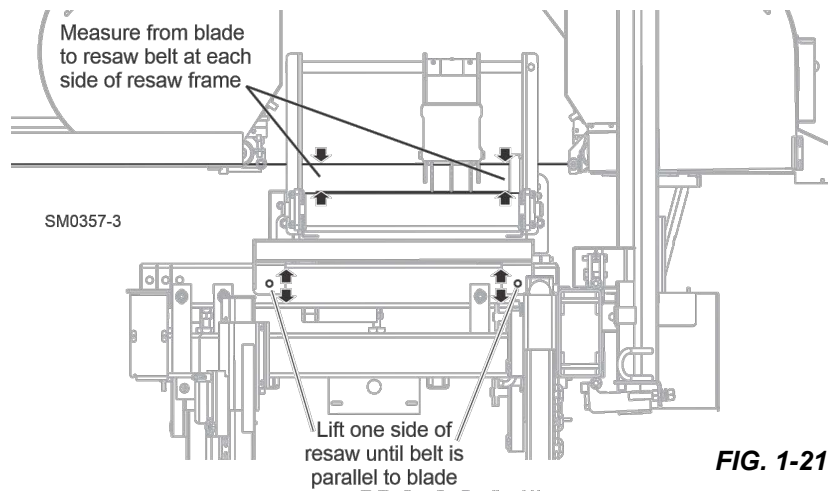

FIG. 1-21
- Measure the distance from the bottom of the blade to the belt at each side of the resaw frame. **See Fig. 1-21.**
8. Secure the saw carriage in position by engaging the rear lock pin in the bed frame hole. **See Fig. 1-21.**